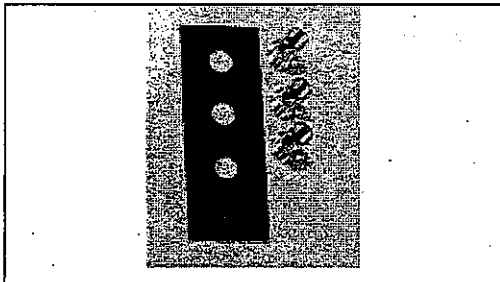

Figure 20
a. Before installing the Pop-nuts, be sure the pressure regulator is adjusted between 72.5 and 87 psi (0.5-0.6MPa / 5-6bar) and, using the provided test pieces, test install at least one Pop-nut in the test plate to be sure the nut is seating properly. Measure the installed Pop-nut to confirm it has expanded to at least 15 mm. See Figures 20 and 21.